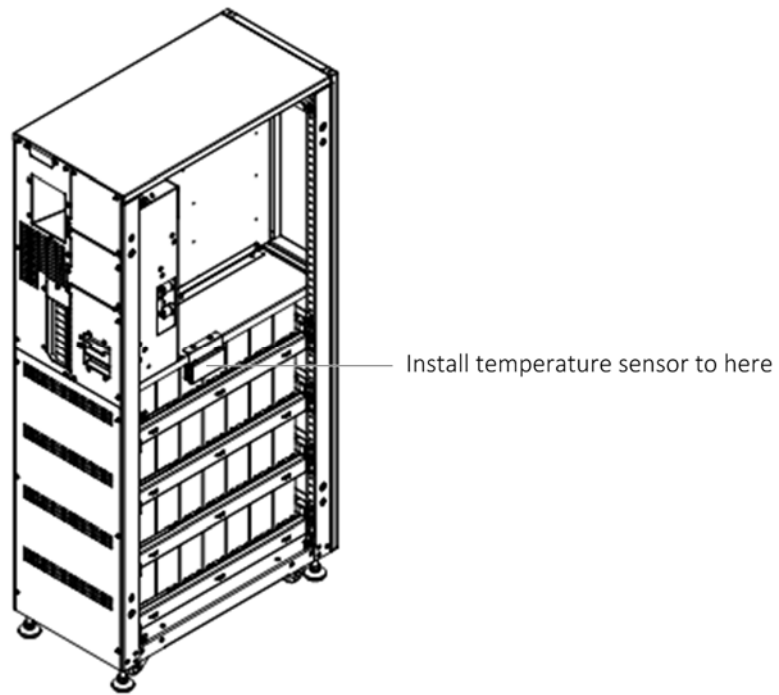

Figure 8-7 Installing and connecting the battery temperature sensor
4. Remove the left side panel of the cabinet, place the battery temperature sensor in the position shown in Figure 8-7, and use the cable tie to secure it in place.